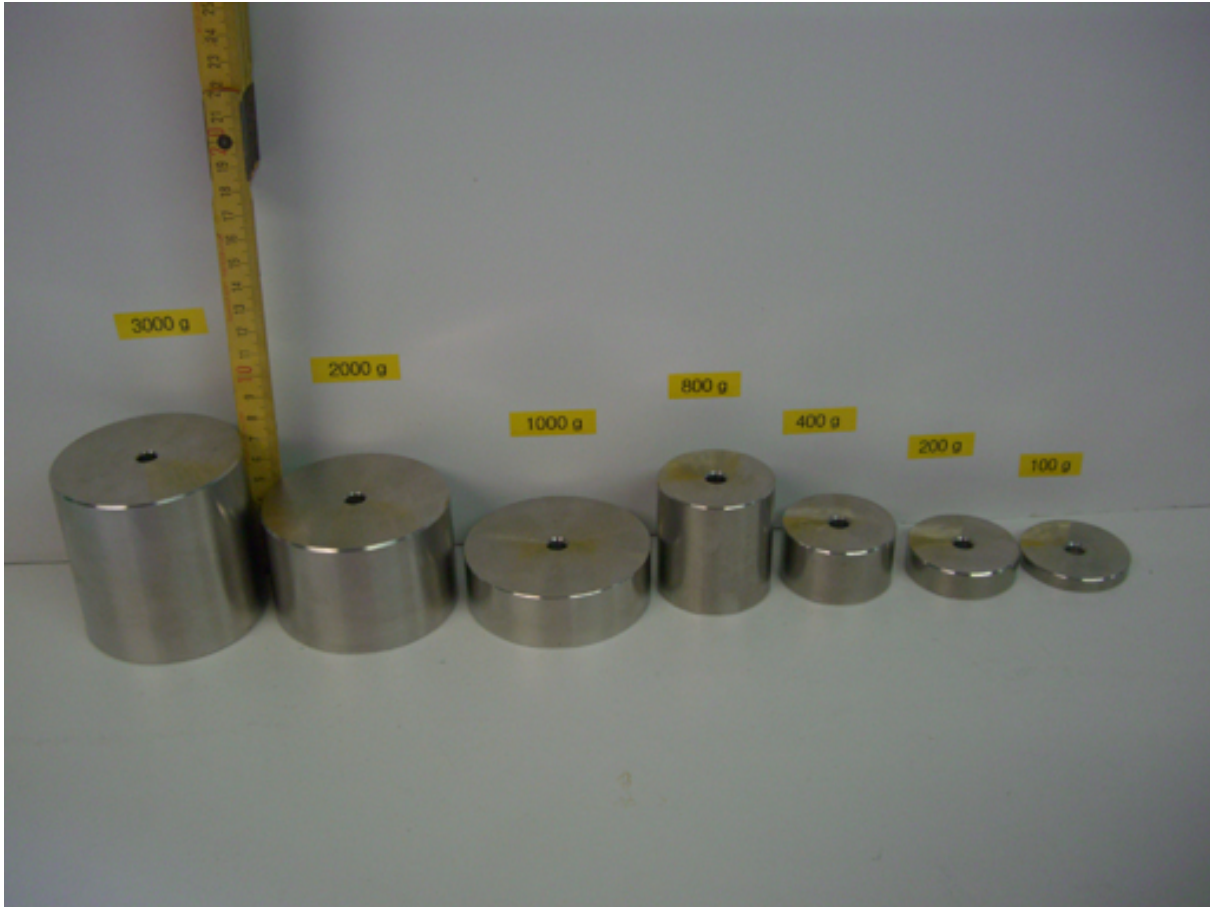

Figure 2: Used weights provided by the kjVIs
3. One hour before starting the jury will announce the conditions of additional load (0-30% of own mass) as well as the range (10-20 meter). Both parameters will be drawn, whereas the additional mass will be rounded down at full 100 g. These weights with a maximum diameter of 80 mm and a bore with a diameter of 8 mm will be provided by the kJVs. Figure 2 shows the differentiation of the weights. Sufficient space for the weights needs to be considered designing the ChemCar.